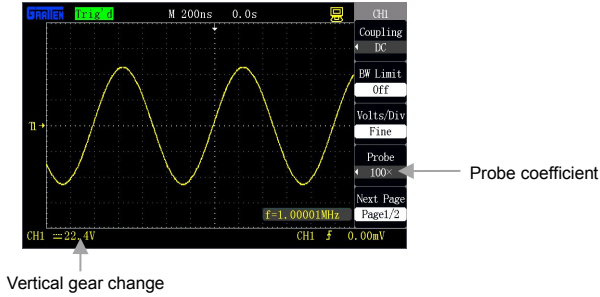

Figure 2-13 Probe 100X
- Press **[CH1]**→**"Probe"**→**"100X"**, as shown in figure 2-13: